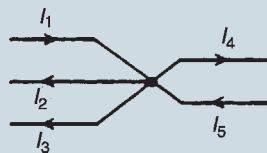

Figure 15.88
1. Which of the following statements is true: For the junction in the network shown in Fig. 15.88: